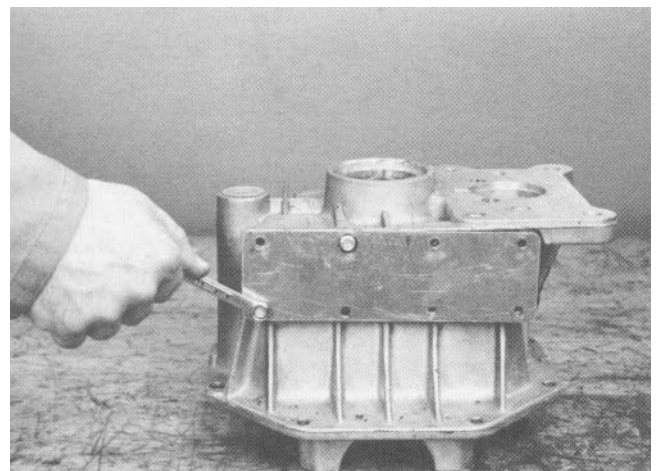

Figure 30
10. Remove the eight side cover capscrews. Remove the side cover from the carrier assembly (Fig. 30). Clean the gasket material from the mating surfaces before reassembly.